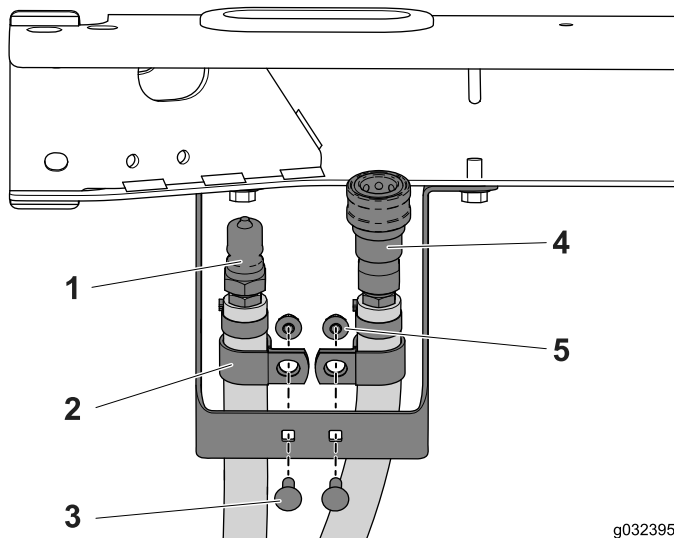

Figure 28
- Position an R-clamp over each hose (Figure 28).
- Use the 2 carriage bolts (1/4 x 3/4 inch) and flange nuts to install the R-clamp and hose assembly to the bracket mount (Figure 28).